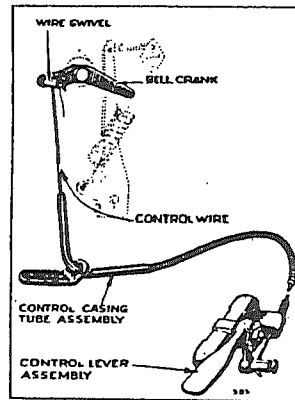

Fig. 11.
56. The hand throttle control equipment for regulating the motor speed is hooked up as shown in Figure 11. The control lever assembly may be conveniently fastened with two screws to the machine which the motor operates so as to provide ease of control of the motor by the operator. Pulling on the control wire speeds up the motor. The control casing tube assembly is held down with one of the crankcase mounting screws directly on the left side of the carburetor. The bell crank is fastened with the bushing, washer and cap screw to the boss on the crankcase, as shown in Figure 11. The control casing with wire inside is inserted into the tube assembly with the wire coming thru the upper end of tube,